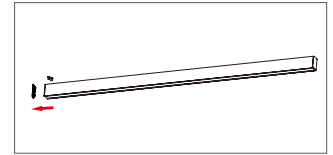

FIGURE 2-3
- III. For End-of-Run, remove the end cap with the power cord. Insert the joiner and secure with screw. (Figure 2-3)